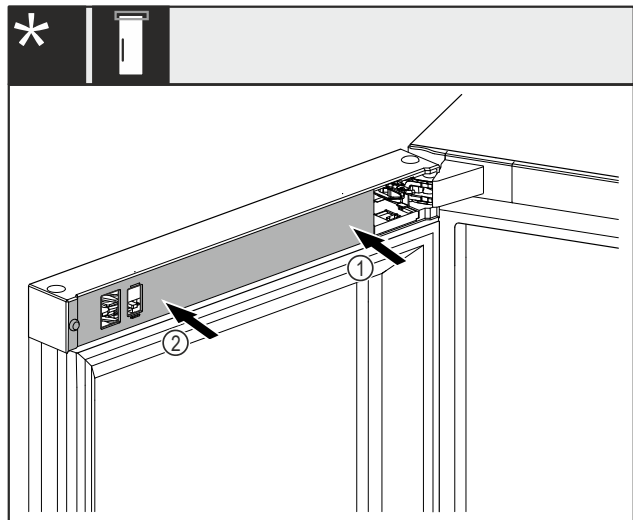

Fig. 47 *
- Place the cover Fig. 47 (1) on the bearing bracket side first and snap into place.*
- Fit the cover Fig. 47 (2) on the outside and snap into place.*